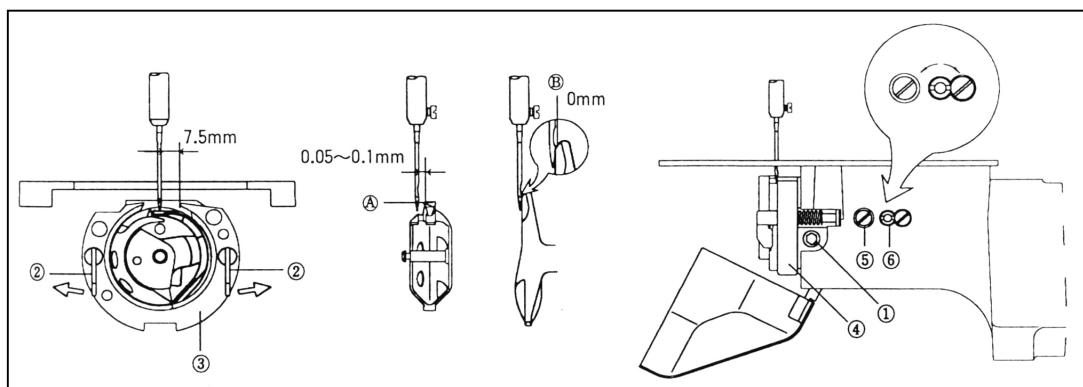

Fig. 15
Turn the locking bars (2) and take out shuttle ring (3) from shuttle (4), keeping needle center in line with the tip of shuttle (A). Set position of hook driver to be in contact with the needle (see fig. 15 – B), then tighten screw (1). Loosen Screw (5) and turn screw (6) until the distance between needle and tip of the hook is 0.05-0.1mm (A). After setting of hook position, set the distance between needle and shuttle for 7.5mm. For safety, fully tighten all screws after adjusting the shuttle. (fig. 15)